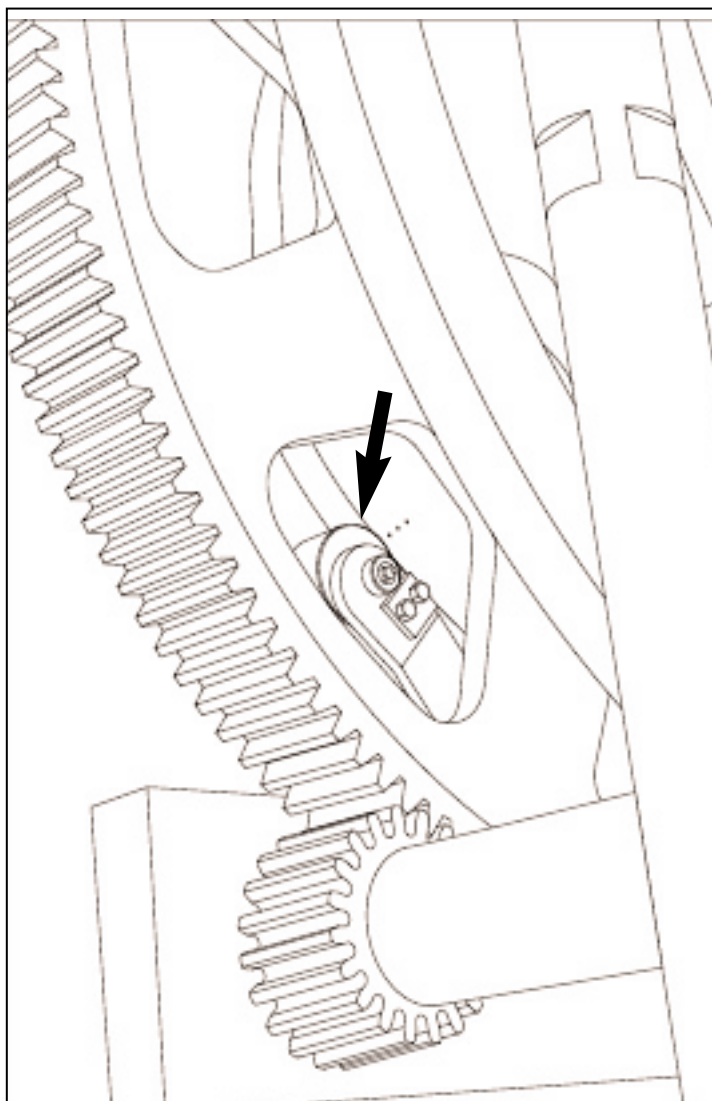

Figure 6.6: PALLET RAISING CAM.
- 6.2.1 Run machine to align punch marks on pallet raising cam (innermost cam on left side of machine) with center of roller that contacts it (see figure 6.6).